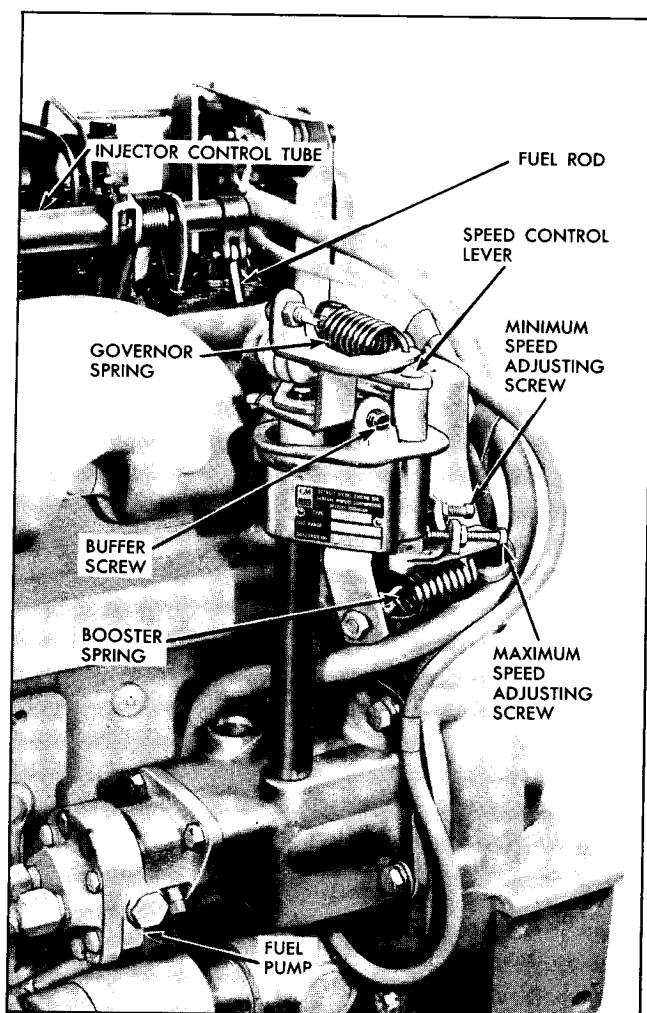

Fig. 1 - Variable Speed Open Linkage Type Governor Mounted on an Engine
3. Back out the buffer screw, shown in Fig. 1, until it projects $9/16$ " from the governor boss.
4. Back off the tension of the booster spring, shown in Fig. 1, until the eye bolt is flush with the nut.